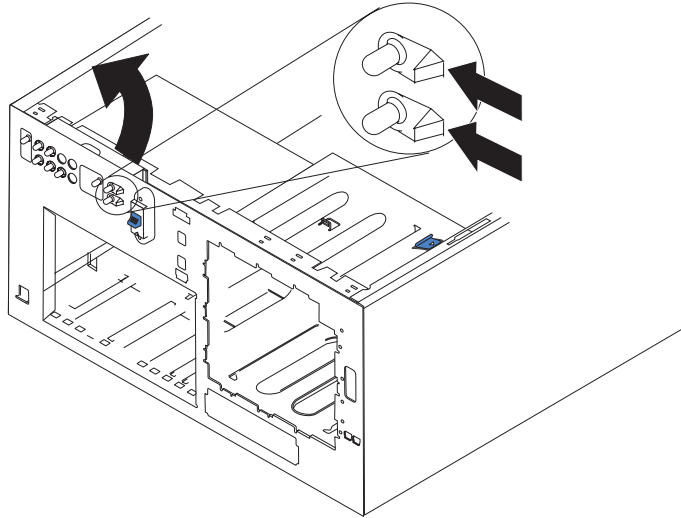

Figure 93. Removing the operator information panel (Model 25T with the rack-mount conversion feature)
15. From outside the engine, push the two tabs on the panel as shown in Figure 93 on page 161, making sure to press the tab near the chassis; the panel will disengage from the chassis.